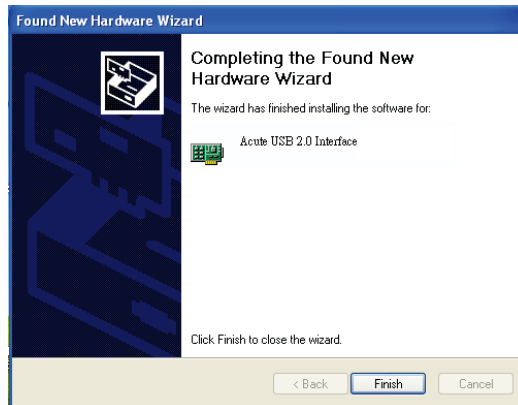
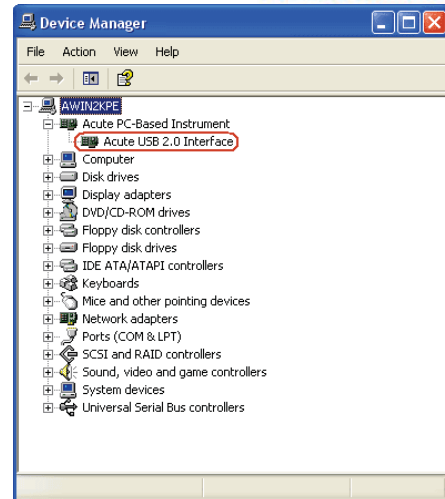

Figure 5
Figure 6
- (5) Click “Finish” (Figure 5) after the DSO driver is installed. You may see the “Acute USB 2.0 Interface” in Device Manager (Figure 6)..
You will see the “Acute USB 2.0 Interface” in the Device Manager (Figure 6).